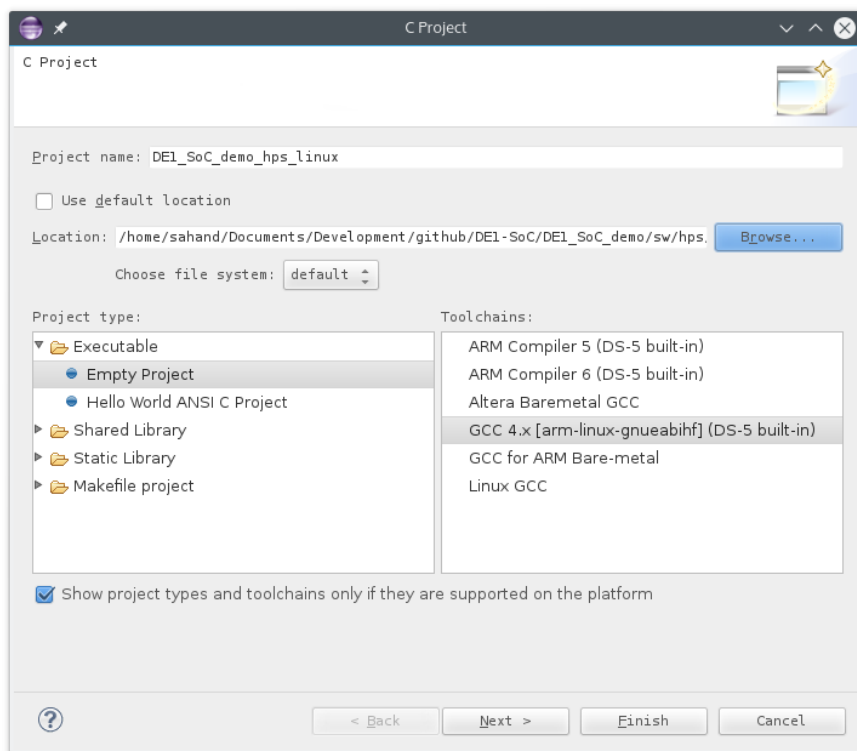

Figure 8-45. New C Project Dialog
- f. You should have something similar to Figure 8-45. Then, press the “Finish” button to create the project.